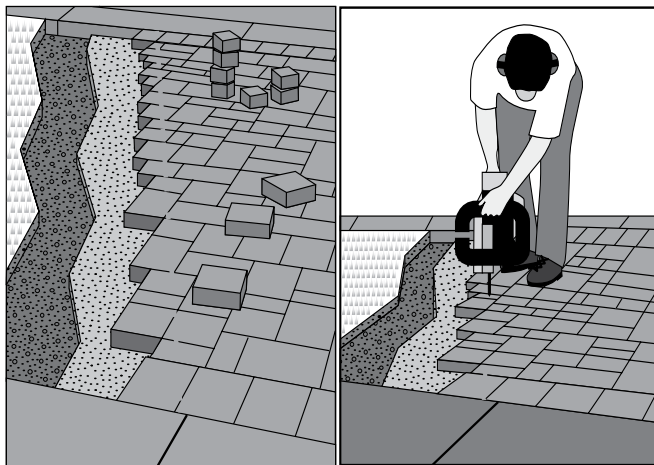

Figure 25. Marking and cutting pavers on site.
When restraints are installed after the pavers and bedding material, the area of pavers is extended past the planned edge location. Then, the pavers are marked with a chalk line, plastic pipe or by using the edge material itself as a large ruler for marking. The marked pavers are then cut with a powered saw. The unused ends and excess bedding material are removed up to the cut pavers, and the soldier course and edge restraints are installed (Figure 25, Page 34).
**Method 1** (Figure 25) - The paver pattern is laid to the outer most edge, then a row of soldier course pavers is placed directly on top of the installed area in the same relative position that they will be in once the cuts are made. Then, using a chalk, marker or wax pencil, a mark is made along the edge of the soldier course or board. Cut the pavers and remove the pieces below. Place in the soldier course and the edge restraint for a perfect fit.